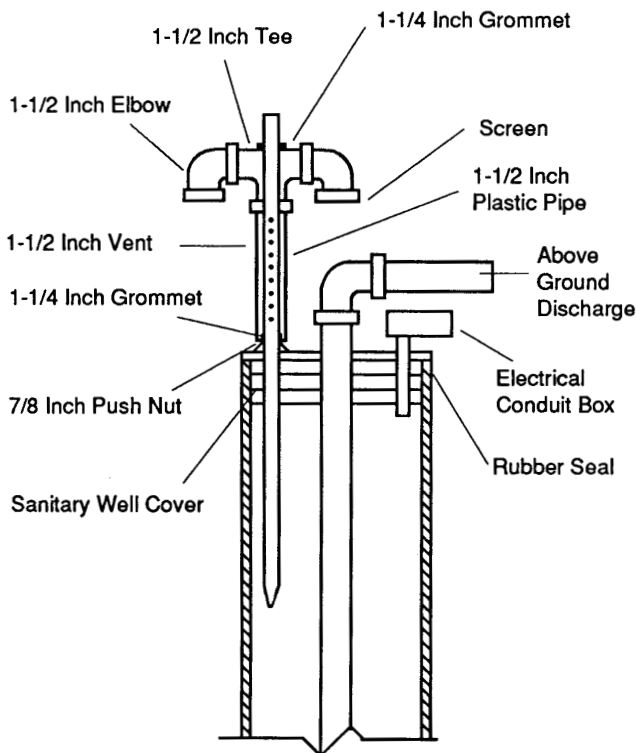
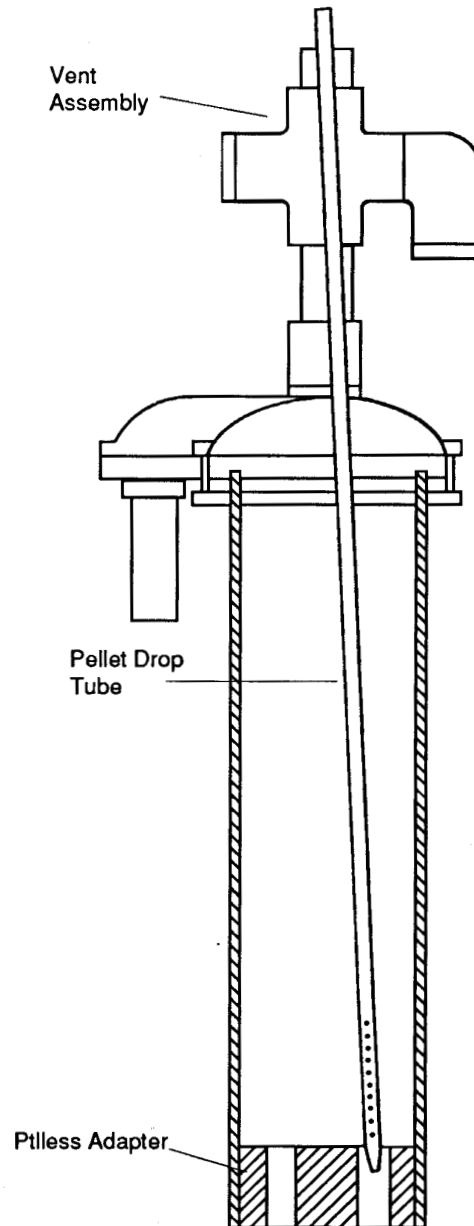

Figure 12
Figure 13
1. Construct a well vent from two 1-1/2-inch PVC elbows, 1-1/2-inch PVC tee, 1-1/2-inch PVC pipe and two 1-1/4-inch grommets. Drill a 1-1/4-inch hole in the top of the tee to accommodate the grommet and 3/4-inch CPVC drop tube. Install the screens in the outer ends of the elbows to prevent insects and other foreign material from entering the well. Refer to Figure 12.
1. Use GE well vent assembly No. 900D153-701 which will provide adequate vent area, and has provisions for electrical connections. The drop tube should be made from 3/4-inch Sch. 40 CPVC pipe. Refer to Figure 13.
For alternative drop tube and vent procedures, refer to the Appendix B, Figure 12 and Figure 13. If the well is equipped with a spool type pitless adapter, refer to Appendix B, Figure 13 for proper Installation instructions.